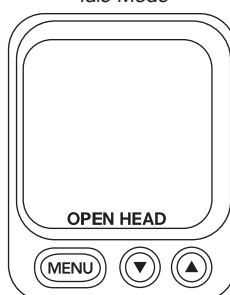

figure 3
7. When the control panel displays OPEN HEAD (see figure 3), open and close the brewing chamber. READY and brew size icons will be displayed with the default size shown as a solid mug (see figure 4).